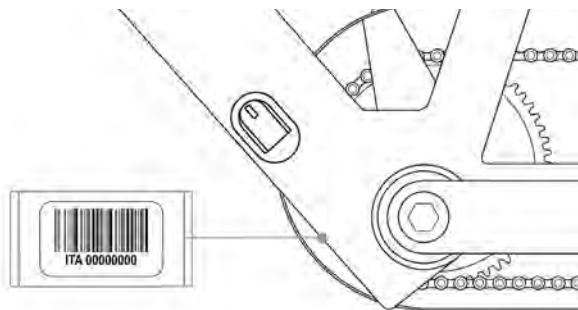

FIG. 22
- In order to make this warranty effective, you must fill out the online form which is accessed via QR CODE or connect directly to the site warranty.mbbike.it by and no later than 15 days from the date of purchase of the bicycle. You will need the serial number and the photograph of the proof of purchase of the authorized retailer. In serial number it is printed on the label placed in the battery slide and on the battery itself. (Figure 22)